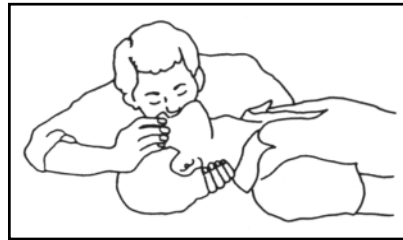

Figure 2
- If the victim is not breathing, start artificial respiration immediately (Figure 2): incline the head, close the nostrils, apply your mouth to the victim's and make four fast respirations.